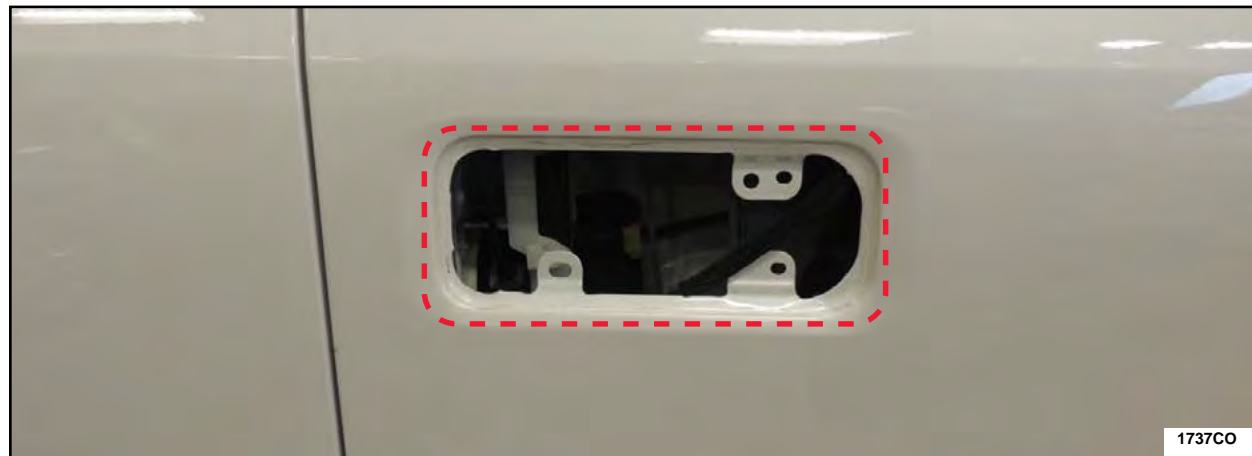

FIGURE 43
17. Using a clean shop cloth and isopropyl alcohol clean inside the dotted lines on the mating surface area of the front exterior door handle openings. See Figure 43.